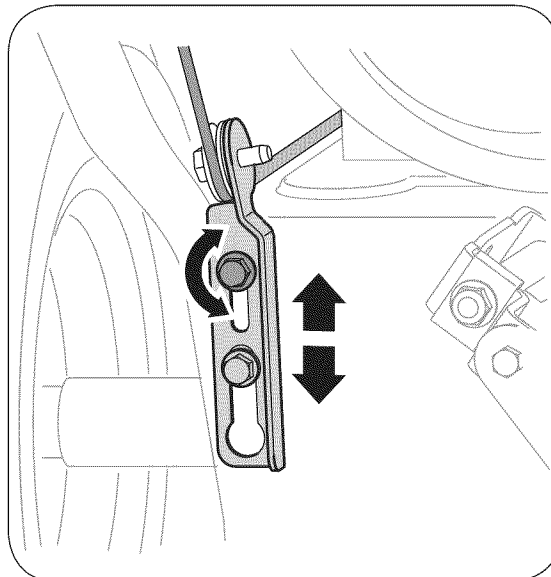

Figure 9
- Allow the auger to remain engaged for approximately ten (10) seconds before releasing the auger control. Repeat this several times.
- Position the bracket upward to provide more slack (or downward to increase cable tension). See Figure 9.